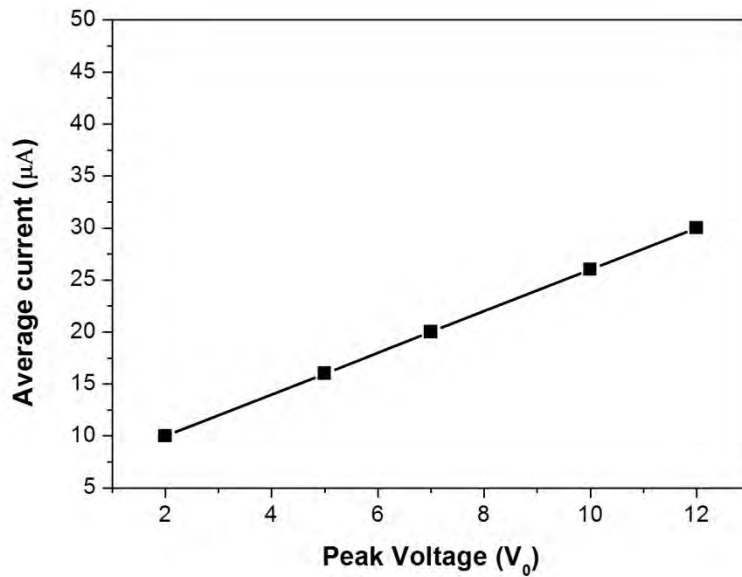

Figure 10: Plot between Average current and peak voltage
- a. Average current as a function of peak voltage is plotted in figure 10.